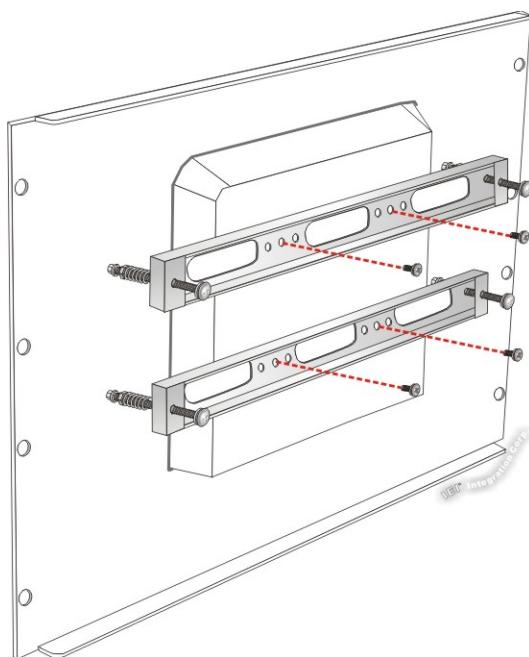

Figure 3-26: Securing Rack Mounting Brackets
Step 5: Secure the two rack mounting brackets to the rear of the panel PC by inserting the four retention screws into the VESA mounting holes and tightening them (Figure 3-26).